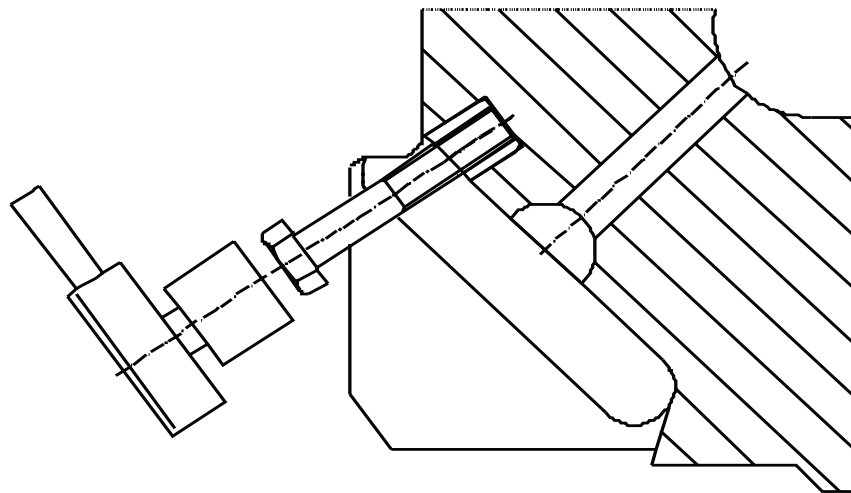

Figure 3. Jacking Pin out of Guide Device
3. Obtain a bolt with the same thread as tapped, approximately twice the length of the Pin. Screw the bolt into the threaded hole in the Pin. When the bolt contacts the bottom of the hole, continue to thread it inwards, jacking out the Pin. **(Figure 3)**